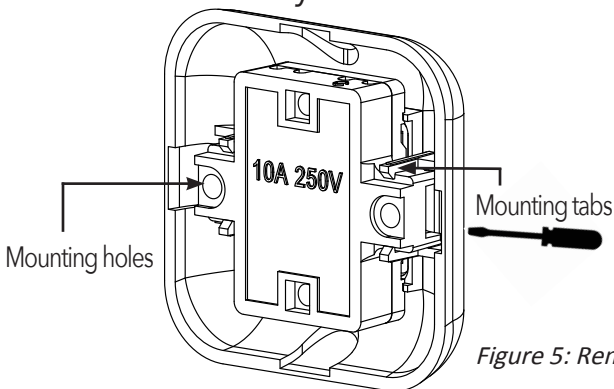

Figure 5: Removing the switch
1. Insert a flat head screwdriver as shown in Figure 5 and gently pry it up until the switch releases from the mounting tabs. Then, remove the switch from its housing.
1. Identify the switch's power ratings and mounting tabs: Refer to Figure 5 to locate the power ratings and the mounting tabs on the left and right sides of the switch.
1. Insérez un petit tournevis à tête plate comme indiqué sur la figure 5 et soulevez-le doucement jusqu'à ce qu'il dépasse la languette de montage, puis retirez l'interrupteur de son boîtier.